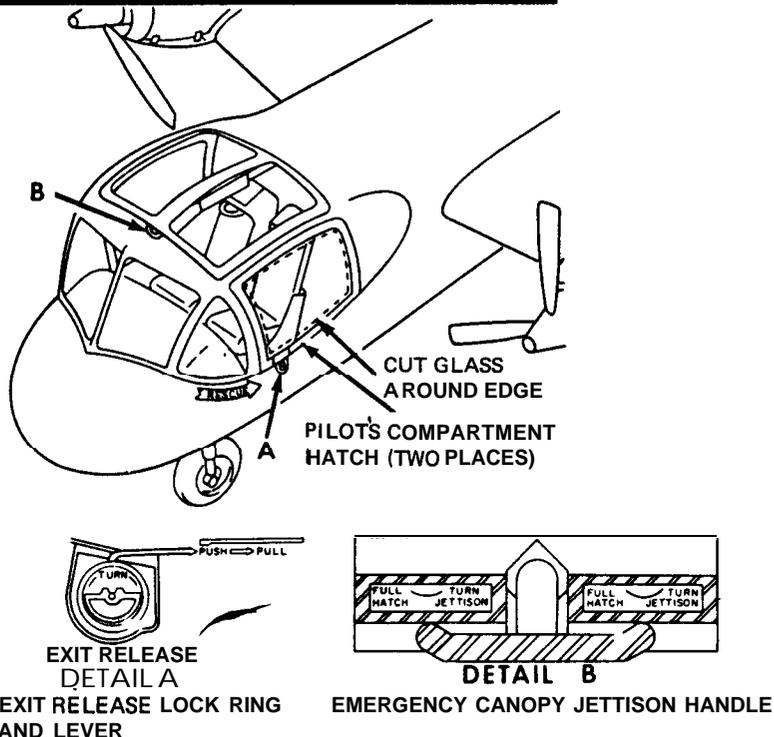

Figure 5-49. Models (with ejection seat) OV-1A, OV-1B, OV-1C, and OV-1D aircraft-Continued.
1. Lift red tab of face blind (Detail C, fig. 5-49—cont'd (2)).